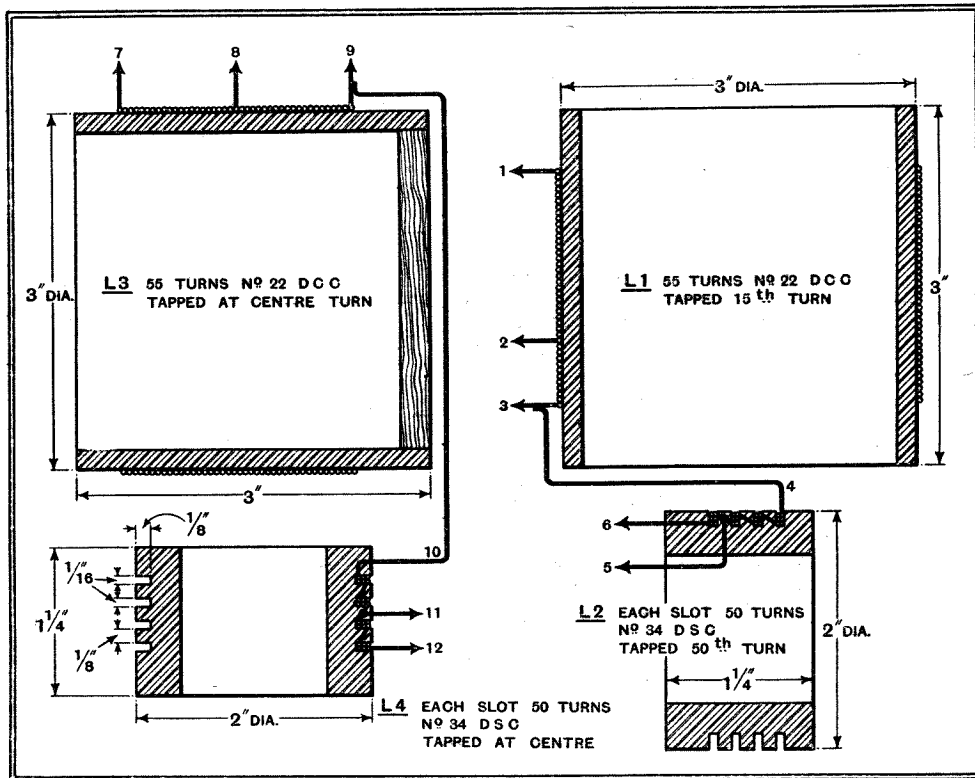

Fig. 2.—Dimensions of coil formers, with winding data.
As shown in Fig. 2, the medium-wave
*A full-size blue print of the wiring diagram, together with the coil winding data given in Fig. 2, is available from the Publishers, Dorset House, Stamford Street, London, S.E.1. Price 1s. 6d. post free.*